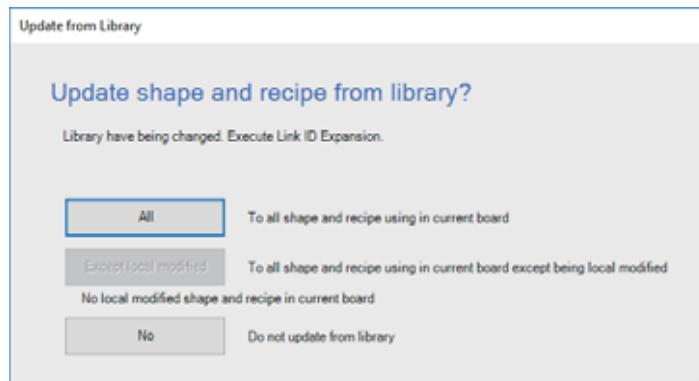

Figure 1-4 Update from Library
Step5: If an inspection data is changed, the dialog shown in Figure 1-4 appears.
If the contents of the inspection data being opened are older than the library, the dialog shown in Figure 1-4 appears.